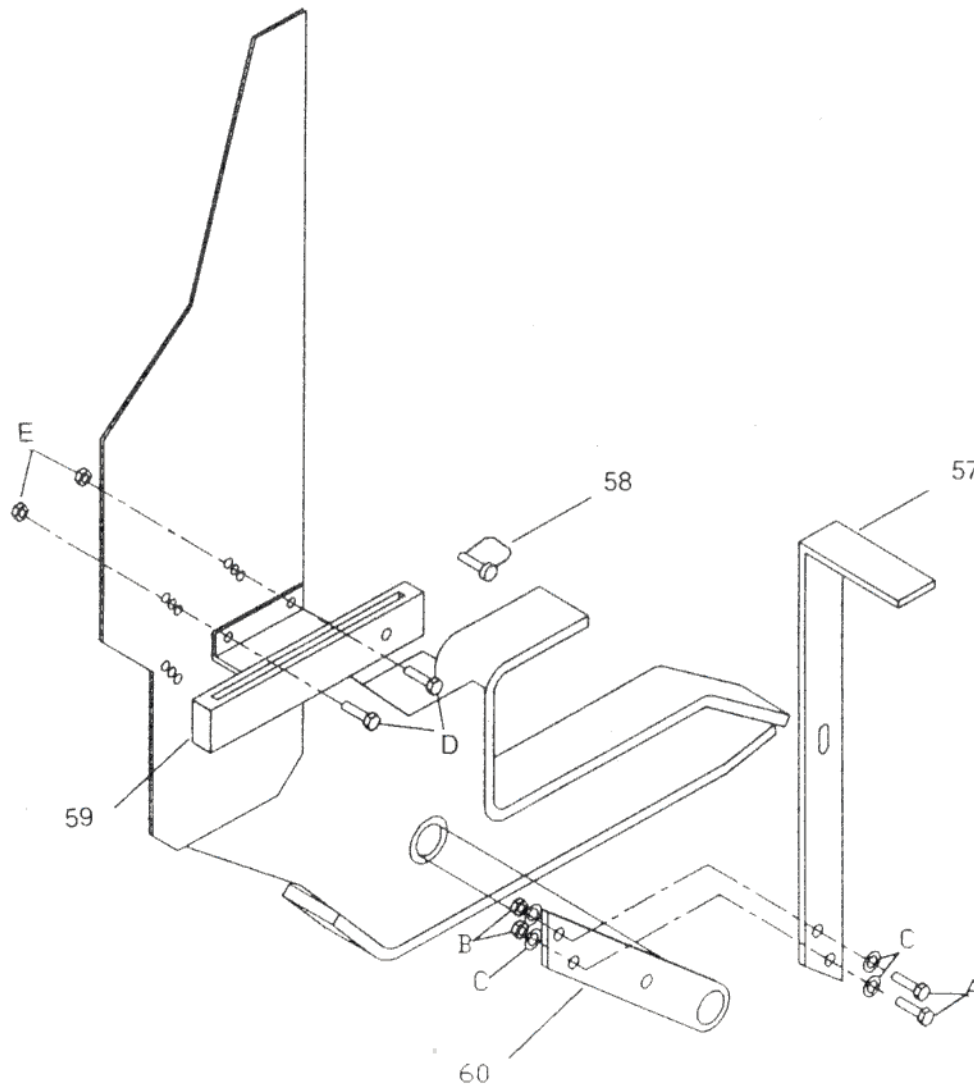

FIGURE 5
10. Assemble the LATCH HANDLE as shown in Figure 5 using 3/8" x 1 1/2" hex head bolts, washers, and self locking nuts. Check that both Coupler Latches close completely against the Coupler jaw when the LATCH HANDLE LEVER (Ref. 57, Fig. 5) is in the closed position. If the latches do not close completely, adjust the hand lever guide assembly (Ref. 59, Fig. 5) so that the latches close completely.